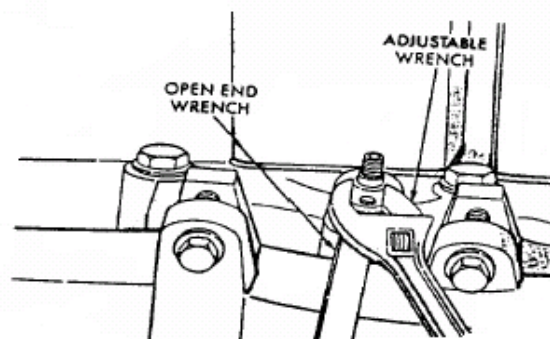

Fig 3: Loosening injector
- 6: Hold the injector body with one wrench while removing the injector nut with another. (Fig 3).